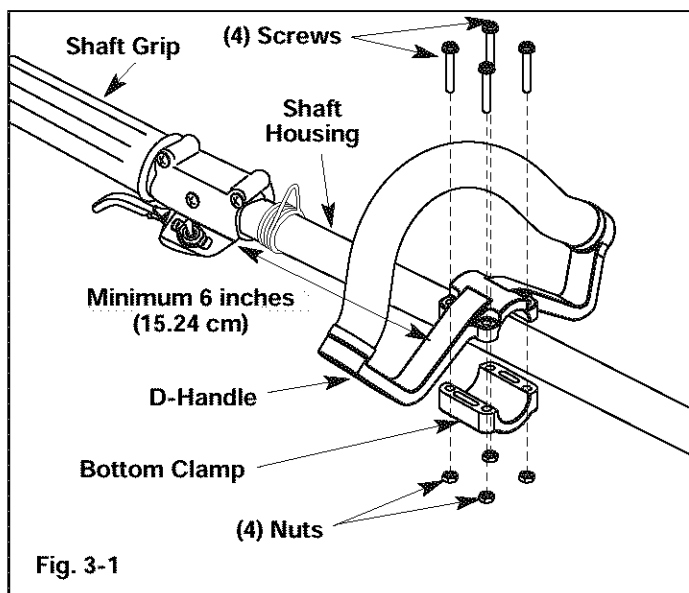

Fig. 3-1
2. Place D-handle over the shaft housing and onto the bottom clamp (Fig. 3-1). Place it a minimum of 6 inches (15.24 cm) from the end of the shaft grip.